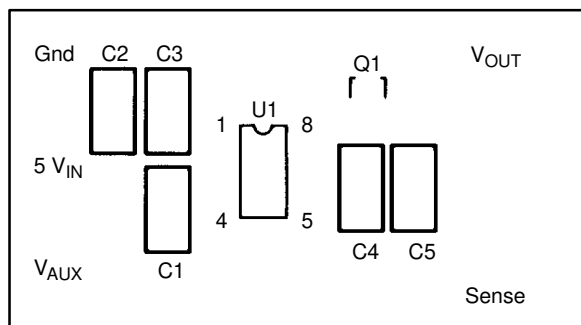

Figure 26. Demonstration Board Silk Screen Layer
5.5 V and provides an output current up to 200 mA. The demonstration board layout (Silk Screen and Top Layers) are shown in Figures 26 and 27, respectively.